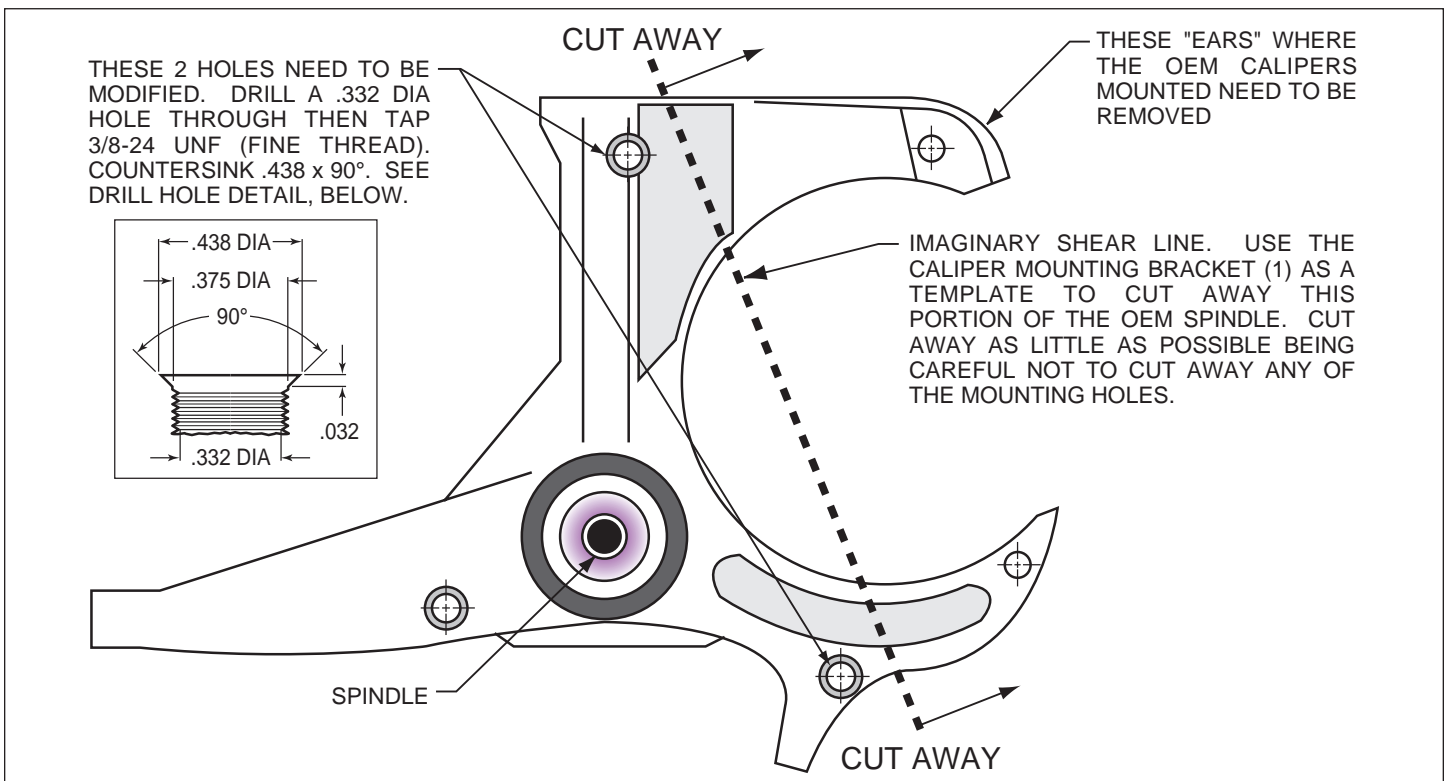

Figure 1. Steering Arm / Spindle Modifications
NOTE: This modification should be performed by a qualified machinist and completed before assembly of the Wilwood disc brake kit begins. Refer to Figure 1 on the following page as necessary (numbers in parenthesis refer to the parts list on page three). Only one view of the steering arm/spindle is shown, but the modifications need to be performed on both steering arm/spindles.
The two stock holes that will be used to mount the caliper mounting bracket (1) need to be modified, as shown in Figure 1. Drill a .332 diameter hole through the two holes, then tap 3/8-24 UNF (fine thread). Countersink the holes to .438 x 90°. The "ears" that protrude to form a "C" shape need to be removed to facilitate the installation of the Wilwood caliper (16). Using the bracket as a template, mark two cut marks on the steering arm. Remove as little as necessary from the "C" shape, being careful not to cut away any of the mounting holes required to bolt on the bracket.